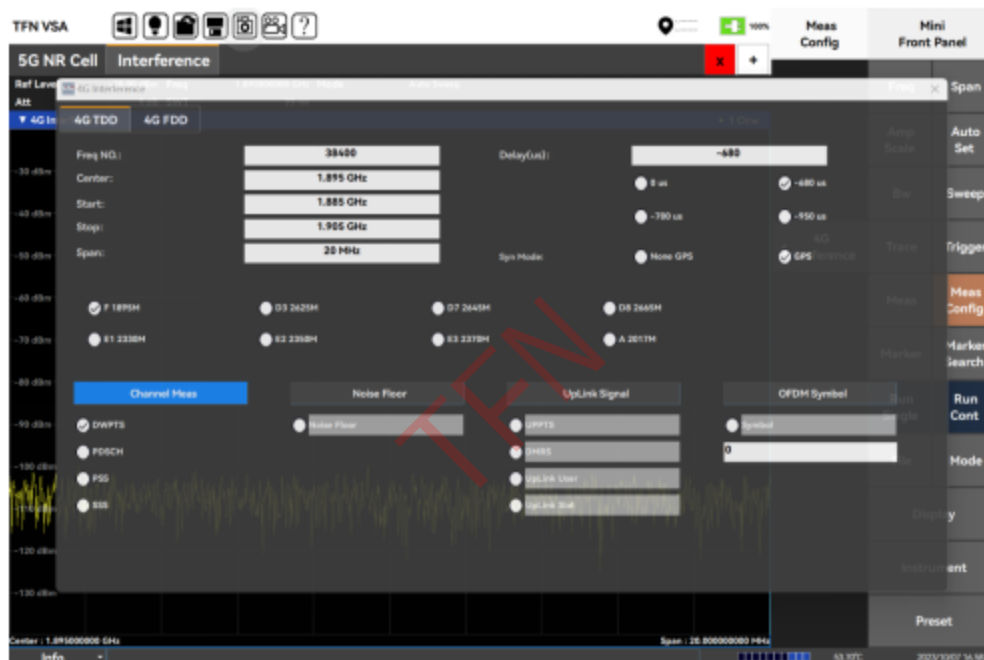

Figure 7.27 4 GFDD interference selection
- Select [GPS] synchronization, 4 GFDD interference selection interface is shown in Figure 7.27: